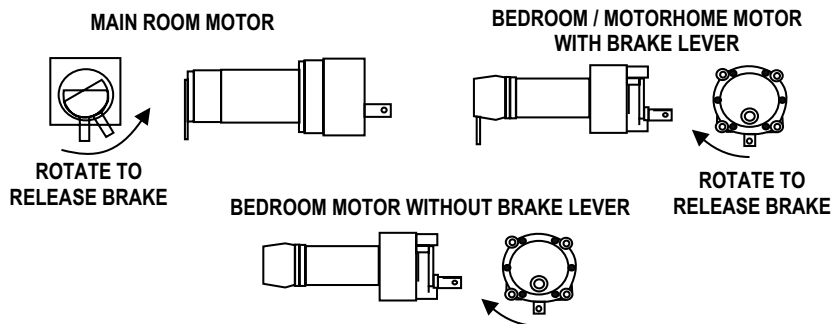

Fig. 3-11
1. Rotate the lever on the back side of the motor counter-clockwise about 1/8 turn (Fig. 3-11). This will release the brake that locks the slideout in place.
3. When the slideout is fully retracted (or extended), apply pressure to the ratchet handle and return the brake release lever on the motor to its normal downward position (Fig. 3-11). This will ensure that the slideout is locked in a sealed position.